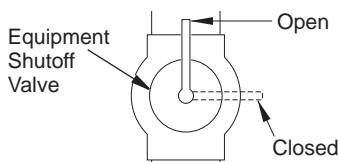

Figure 5 - Equipment Shutoff Valve
1. Close equipment shutoff valve (see Figure 5).
Turn gas shutoff valve clockwise ↻ to OFF position (see Figure 5, page 8).